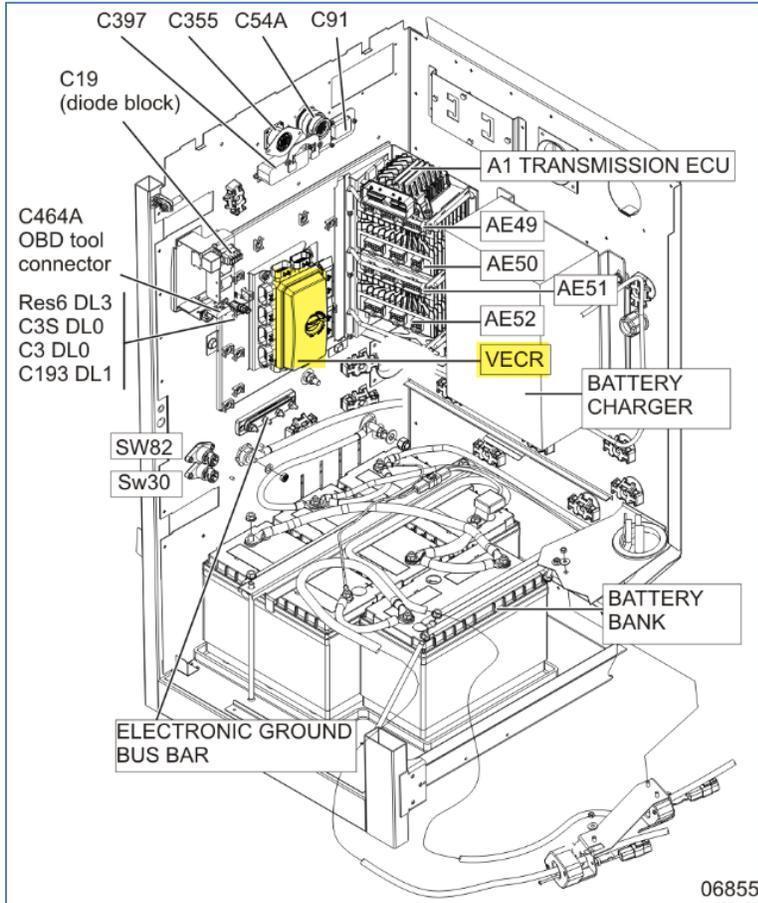
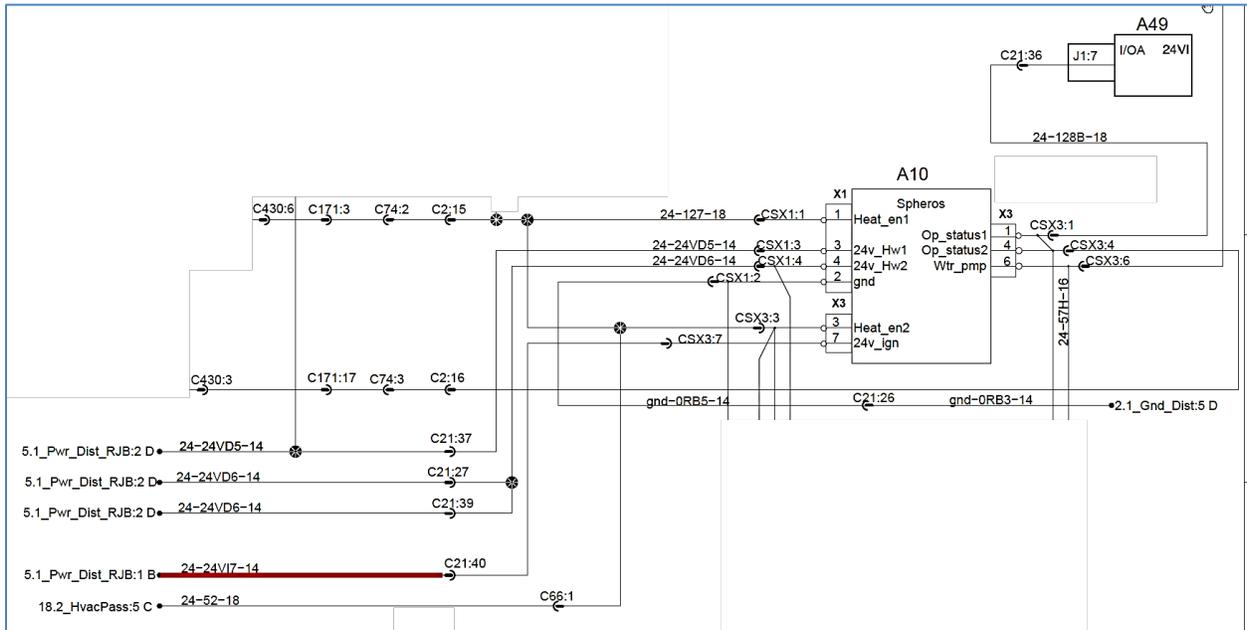

FIGURE 29
FIGURE 30
13. In the main power compartment, remove circuit 24Vi7 routed between connector C21 pin 40 cavity and the VECR connector 2 (red) pin A cavity (Figure 29 & Figure 30). Discard that section of the circuit.